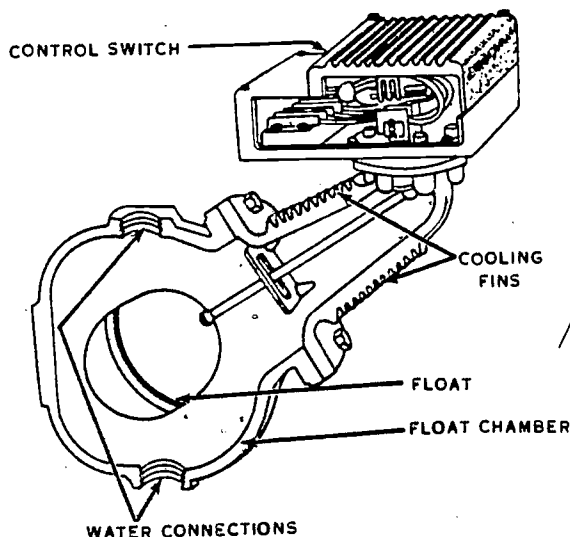

Figure 42. A typical boiler feed-water control.
58. *Feed-water control.* The boiler feed-water control unit, shown in figure 42, is provided to maintain a fixed water level and thereby protect the boiler from feed-water failure. This unit consists basically of an inclosed float-actuated valve, an electrical switch, or a combination of both, mounted on the outside of the boiler near the water-sight gage. The feed-water control unit adds water to a boiler by opening a water valve or operating a water pump. It eliminates a high-water line by actuating an overflow valve. The control provides for ringing a bell when the water in the boiler becomes dangerously high or low. The unit also stops the operation of a stoker, oil, or gas burner when the water line is low. You will recall that we discussed the operation of the feed-water control in chapter 2 of this memorandum.